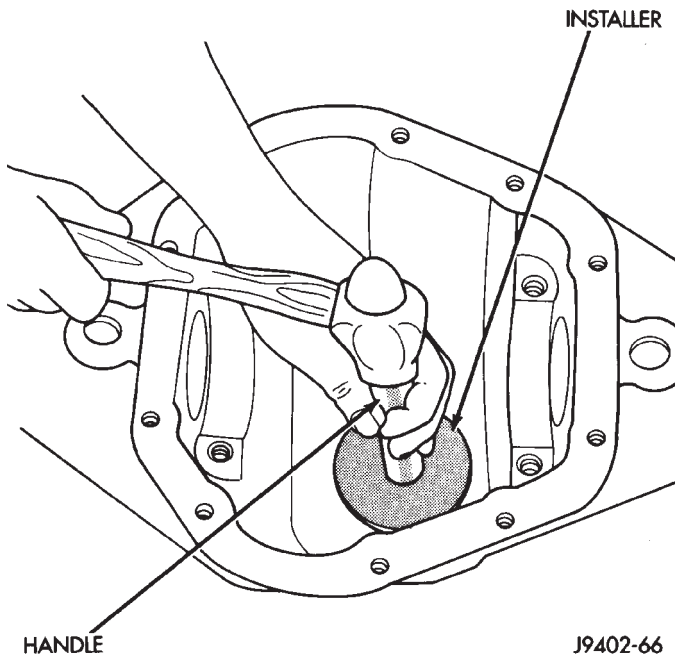

Fig. 32 Pinion Rear Bearing Cup Installation
(1) Apply Mopar® Door Ease, or equivalent, stick lubricant to outside surface of bearing cup.
(2) Install the pinion rear bearing cup (Fig. 32) with: